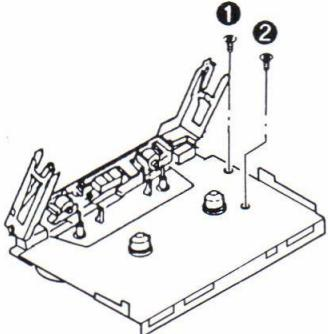

Fig. 1
Remove the head block ass'y, motor and belt from the mechanism to be replaced and replace those parts to the new mechanism block. (Refer to Fig. 1 and 2.)
- Remove the 2 screws(①, ②). (Refer to Fig. 1.)